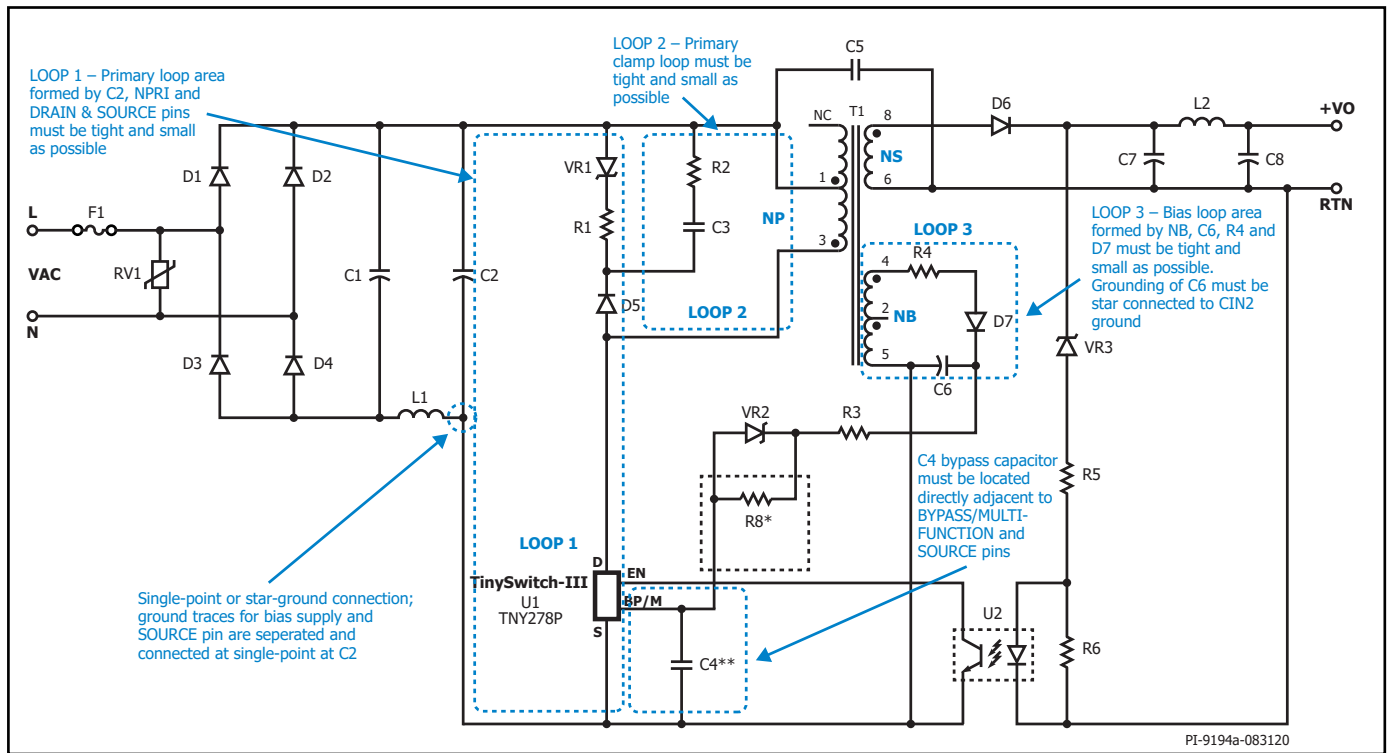
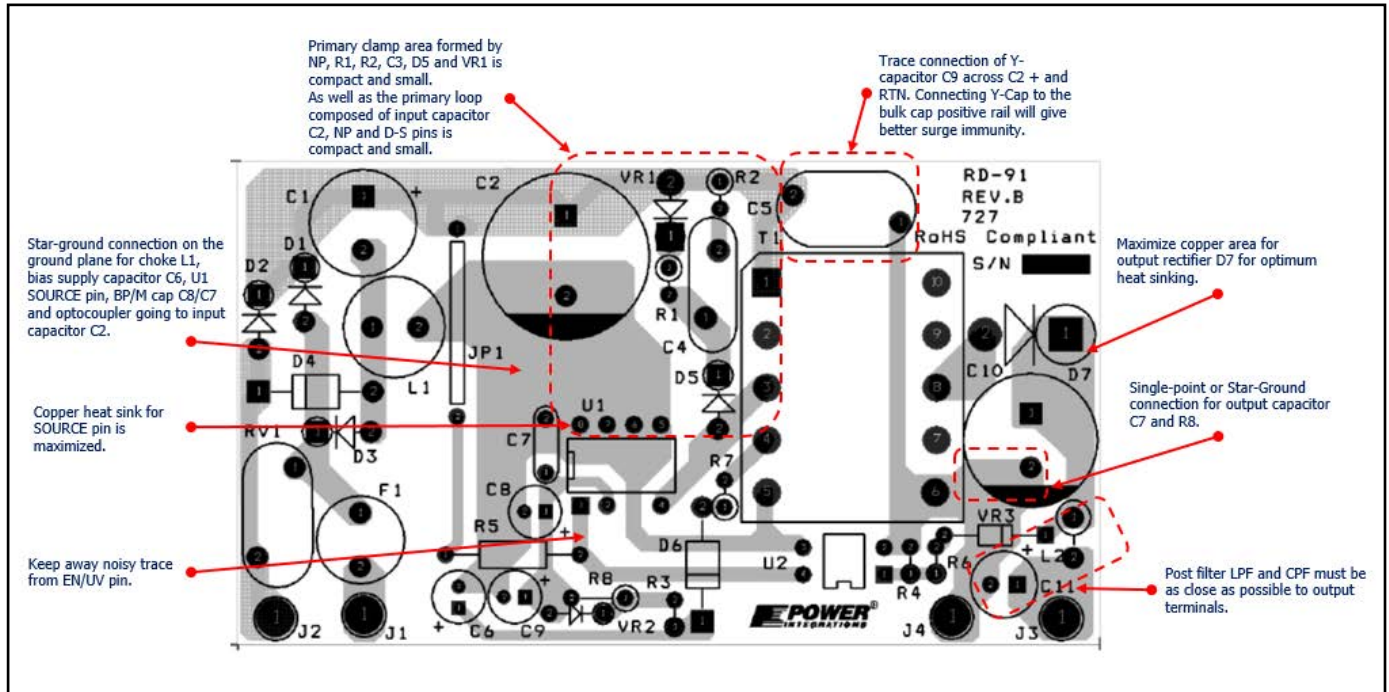

Figure 42. Primary-Side Typical Schematic of TinySwitch-III Showing Critical Loops Area, Critical Component Traces and Single-Point or Star Grounding.
Figure 44. TinySwitch-III Layout Guidelines.
1. Appropriate component placement and small loop areas of the primary and secondary power circuits help minimize conducted and radiated EMI. Care should be taken to achieve a compact loop area. See Figures 42, 43 and 44 for reference.
4. Separate the ground trace of optocoupler U2 from the ground trace of bias capacitor C6. The two ground will be star-connected at the bulk capacitor C2 ground plane. This minimizes coupling of ESD. See Figure 44 for layout and component placement reference and Figure 42 and 43 for schematic reference (primary- and secondary-side).
See Figures 42, 43 and 44 for a recommended circuit board layout for TinySwitch-III.
If a 0.1 μF bypass capacitor has been selected it should be a high frequency ceramic type (e.g. with X7R dielectric). It must be placed directly between the ENABLE and SOURCE pins to filter external noise entering the BYPASS pin. If a 1 μF or 10 μF bypass capacitor was selected, then an additional 0.1 μF capacitor should be added across BYPASS and SOURCE pins to provide noise filtering (see Figure 42).
The SOURCE pins are internally connected to the IC lead frame and provide the main path to remove heat from the device. Therefore, all the SOURCE pins should be connected to a copper area underneath the TinySwitch-III IC to act not only as a single point ground, but also as a heat sink. As this area is connected to the quiet source node, this area should be maximized for good heat sinking. Similarly, for axial output diodes, maximize the PCB area connected to the cathode. The grounding and copper plating at the Source pins are shown on Figure 44.